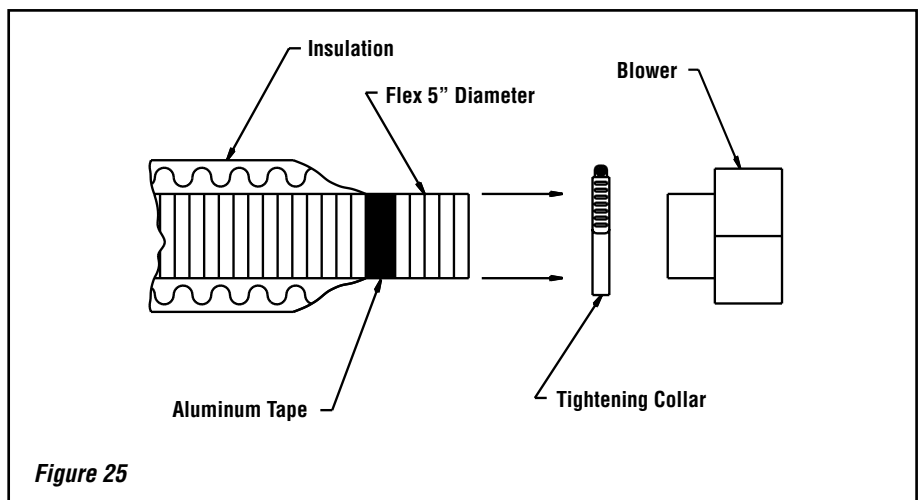

Figure 25
- D) Attach the flexible pipe to the blower, using the collars (**Figure 25**).